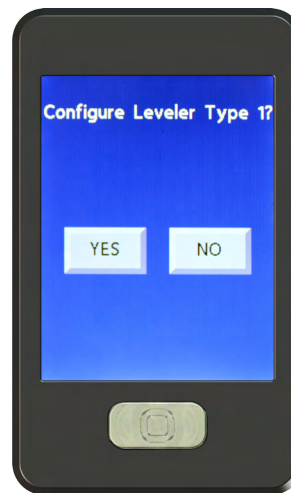
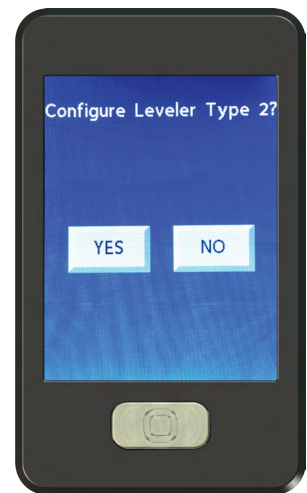

Fig.39
Fig.40
- B. After all the functions have been assigned a "title," the next screen will ask: "Configure Leveler Type 1?" (Fig. 39) and then "Configure Leveler Type 2?" (Fig. 40) will appear. If syncing the transmitter to a LCI Level Up, Ground Control® or Motorized Dual Sensor system, select "Yes" for Type 1 and "No" for Type 2. If you will not be syncing the transmitter to either of these leveling systems select "No" for both Type 1 and Type 2.